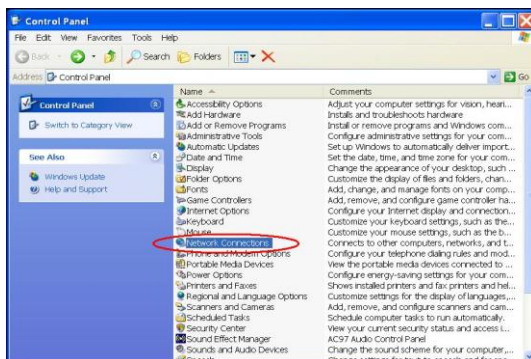

Figure A-3
**Step 2:** When **Control Panel** appears, double-click the **Network Connections** icon. The **Network Connections** dialog box appears. See Figure A-3.